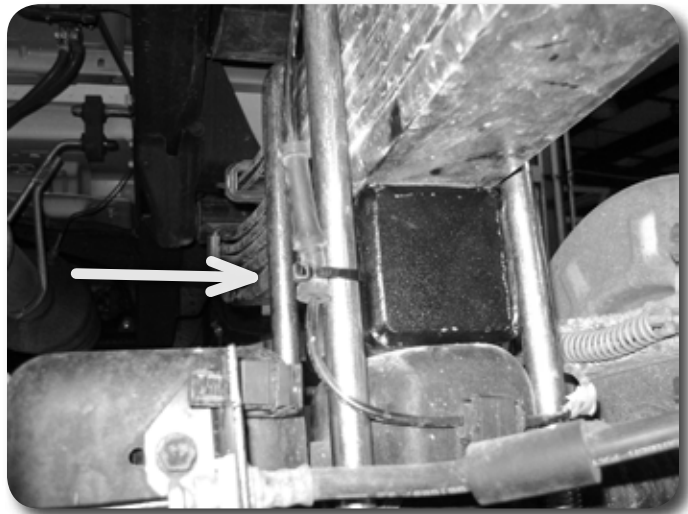

Figure 13
12. With both sides complete, secure the ABS wire to the inside u-bolt with the provided zip ties. **Figure 13**